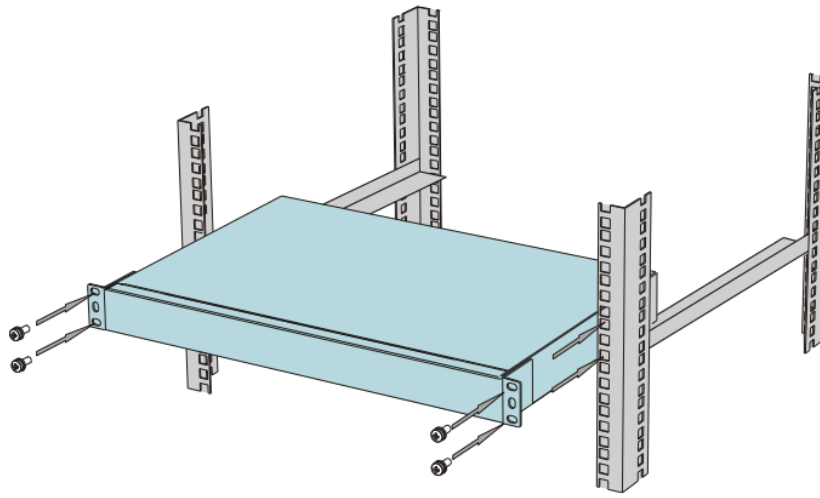

Figure 24: Installing the device in a switch cabinet
- ☐ Attach the mounting bracket to the switch cabinet using screws that meet the cabinet installation requirements (the screws are provided by the cabinet manufacturer and are rust proof on their surfaces). Ensure that the screws are in horizontal position. See Figure 24.